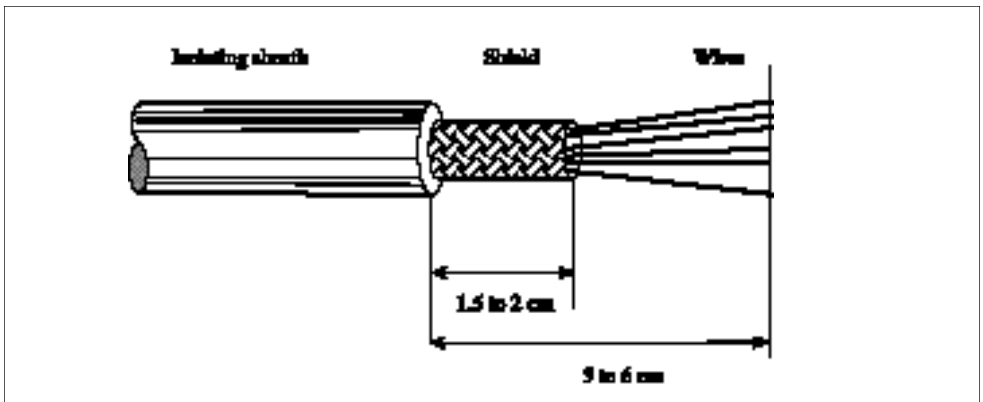

Figure 2-7 Bus cable stripping for shield grounding
- **Strip** the shielded cable as shown on figure 2-7.